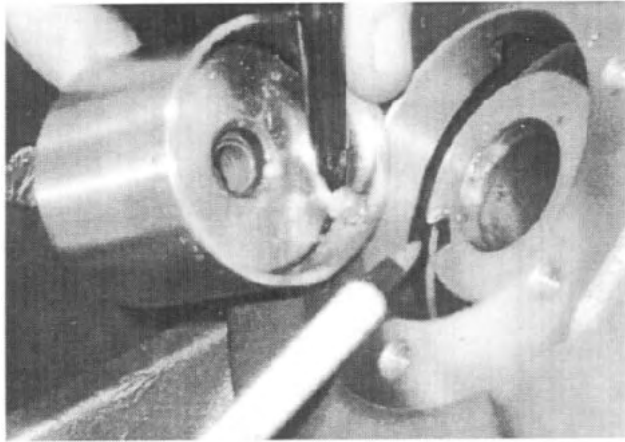

Fig. 109
1. Without the pressure relief spring installed, position the pump cartridge assembly onto the end of the intermediate shaft. See Fig. 109.
⚠ CAUTION: THE CARTRIDGE PIN MUST MATE WITH THE SLOT ON THE INTERMEDIATE SHAFT. SEE FIG. 109.